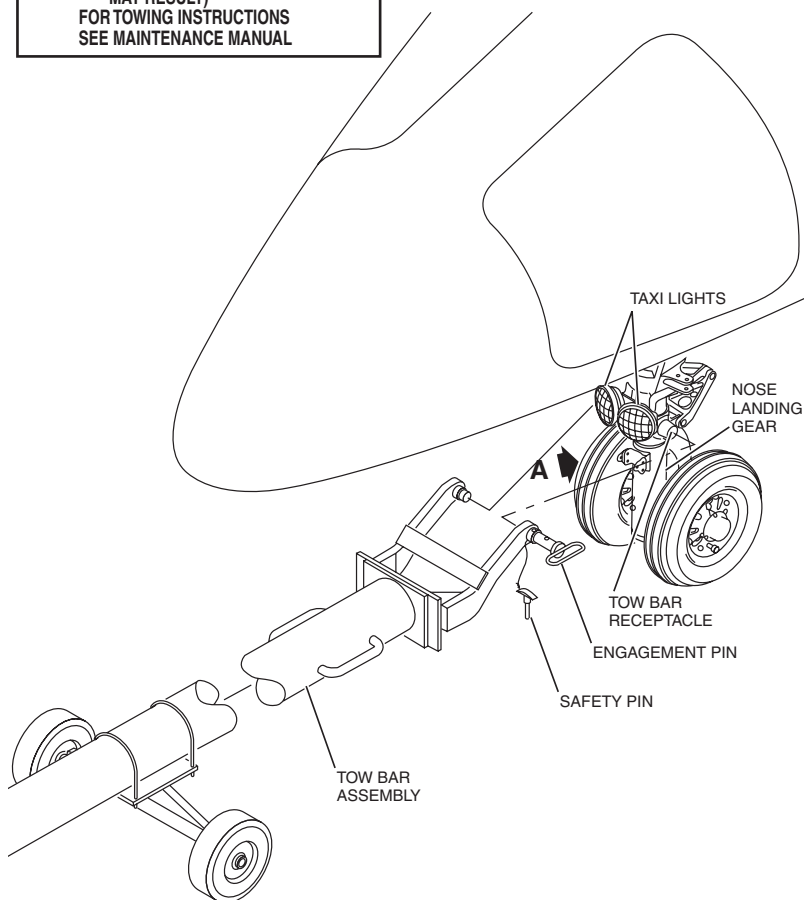

Figure DIM-4. Tow Bar Connection
6. Attach and secure the tow bar to the tow bar receptacle, located on the nose landing gear (Figure DIM-4).